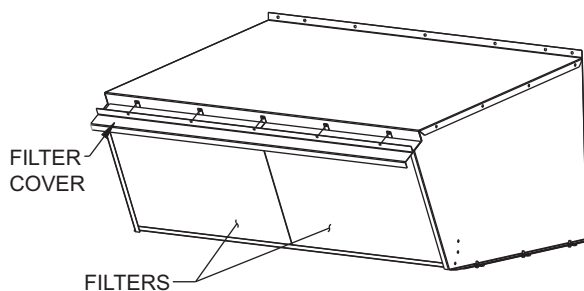

Fig. 33 — Filters and Filter Cover
14. Slide two 20 x 25 in. filters into cross members of hood assembly. Attach filter cover over filters with screws and speed clips provided. See Fig. 33.